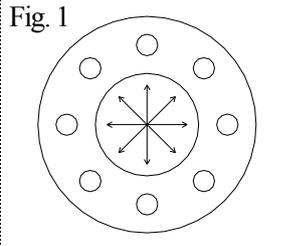

Fig. 1
- 3) Using a torque wrench, tighten the bolts and nuts gradually to the specified torque in a diagonal manner. (Refer to fig.1.)